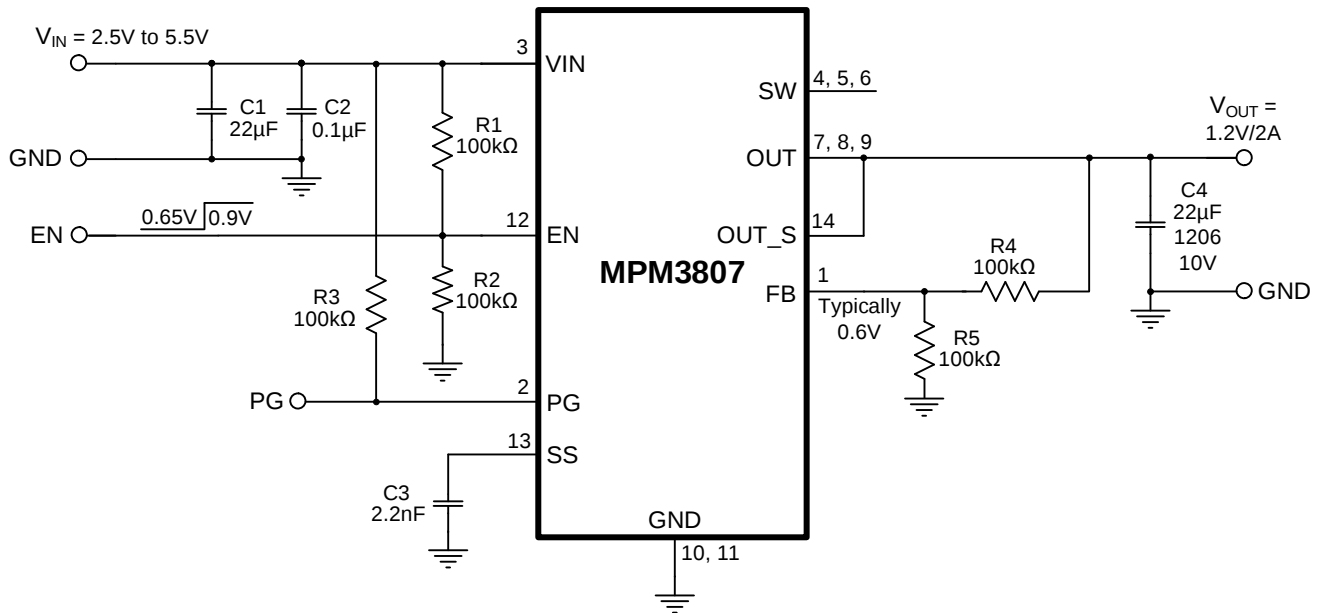

Figure 13: Typical Application (Adjustable Output,  $V_{OUT} = 1.2V$ )
- 11) The recommended PCB layout is based on Figure 13 on page 25.